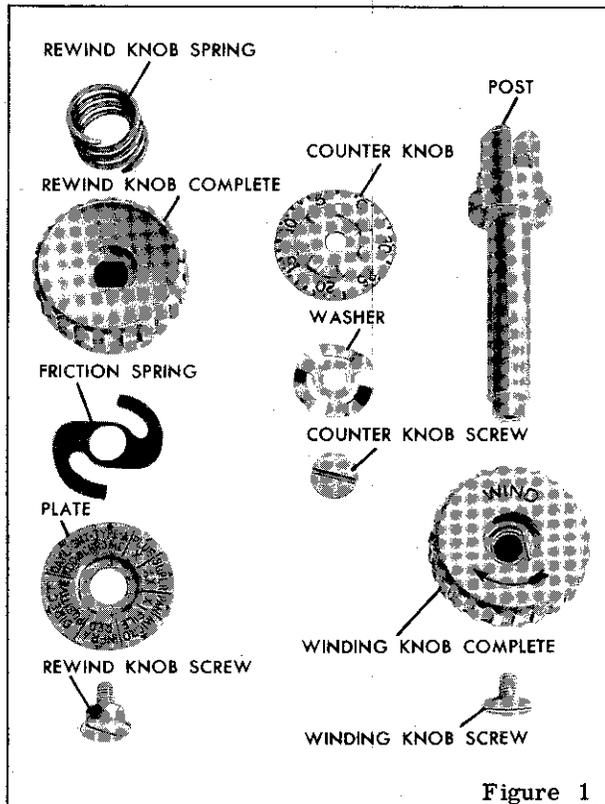
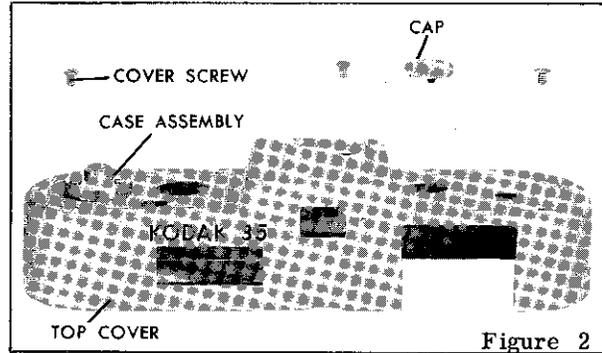

Figure 1
Figure 2
Remove the back complete from the camera. Remove the REWIND KNOB SCREW (Figure 1), the film indicator PLATE and the film indicator plate FRICTION SPRING. Remove the REWIND KNOB COMPLETE and the REWIND KNOB SPRING. Remove the key POST.
**WARNING:** Do not remove the WINDING KNOB COMPLETE unless necessary. If the knob is removed, the springs and rollers of the key cam CASE ASSEMBLY (Figure 2) may become disassembled and a new assembly will have to be installed.
Hold the **WINDING KNOB COMPLETE** (Figure 1) carefully in place while replacing the **TOP COVER COMPLETE** (Figure 2). Secure the winding knob with the **WINDING KNOB SCREW** (Figure 1). Fasten the top cover complete with the three holding screws. Place the counter knob thrust **WASHER** on the top of the counter gear. Secure the **COUNTER KNOB** with the **COUNTER KNOB SCREW**. Insert the key **POST** in the opening in the case from the inside. Replace the **REWIND KNOB SPRING**, the **REWIND KNOB COMPLETE**, the film indicator plate **FRIC-TION SPRING**, the film indicator **PLATE** and secure
the assembled parts with the retaining screw. Replace the top cover **CAP COMPLETE** (Figure 2).
| Unable to lift up the REWIND KNOB COMPLETE (Figure 1) to rewind film                    | The film has been wound beyond 20 or 36 exposures.  | Remove the camera back in a dark room. Disengage the film magazine, and lift up the winding knob. Replace the magazine and camera back. Rewind the film.  |
| Light leak  | The spacing between the camera back and the TOP COVER (Figure 2) is too great.Missing screws in the mechanism PLATE ASSEMBLY (Figure 9) and housing.Corners of the camera case or the back are chipped. | Using special tools Nos. 291A and B, refit the back.Replace missing screws.Replace the camera case or the back complete.  |